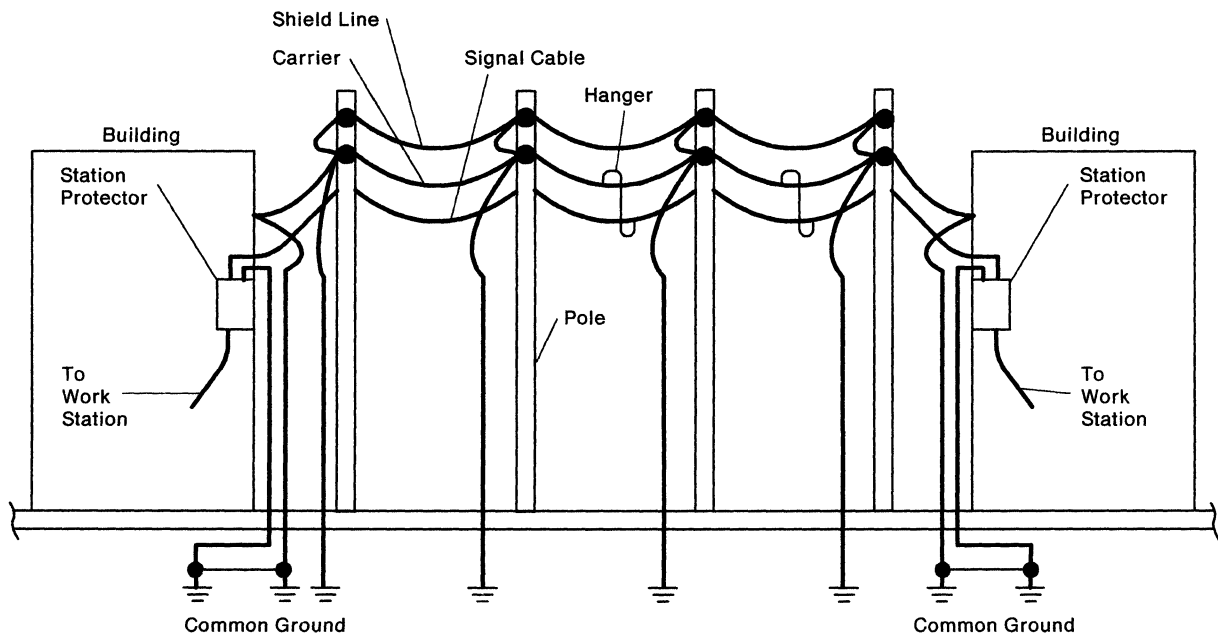

Figure 7. Using Shield Lines with Overhead Cables
- Put overhead cables under a shield line. The shield line is a metal cable run on the same poles. (Power lines can also have a shielding effect on cables.) The signal cables must hang at least 1 meter (3.3 feet) below the shield line. Figure 7 shows shield lines used with overhead cables.